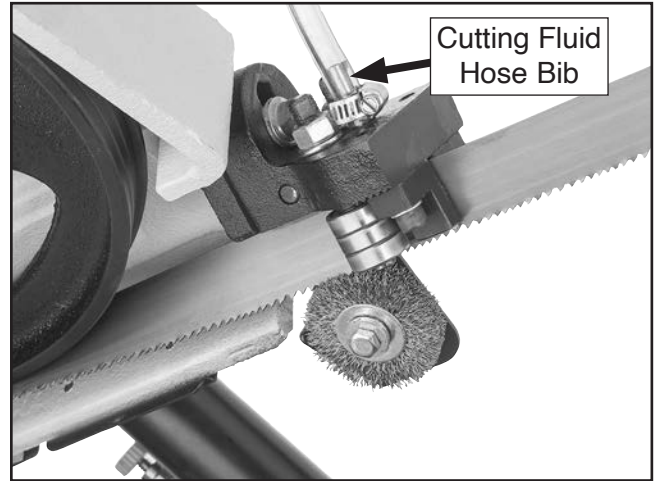

Figure 75. Location of cutting fluid hose bib (lower blade guide assembly shown).
4. Lightly pull cutting fluid hose bibs to remove cutting fluid hoses from blade guide assemblies (see **Figure 75**).